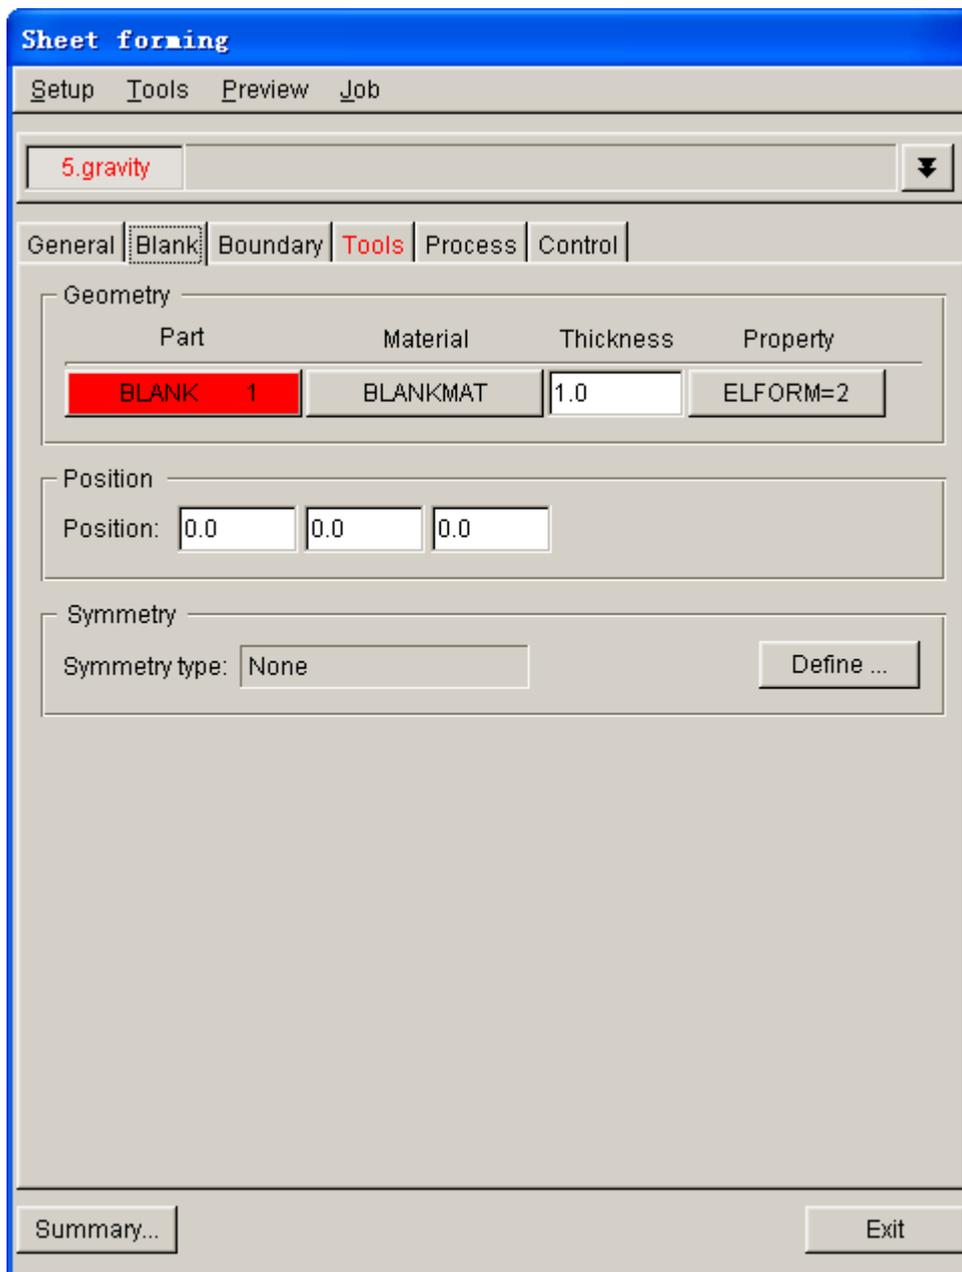

Figure 4.10 Blank definition interface
- Click the Exit button to return to the blank definition interface. Now, the color of Blank tab is changed to from RED to BLACK. See Figure 4.10.